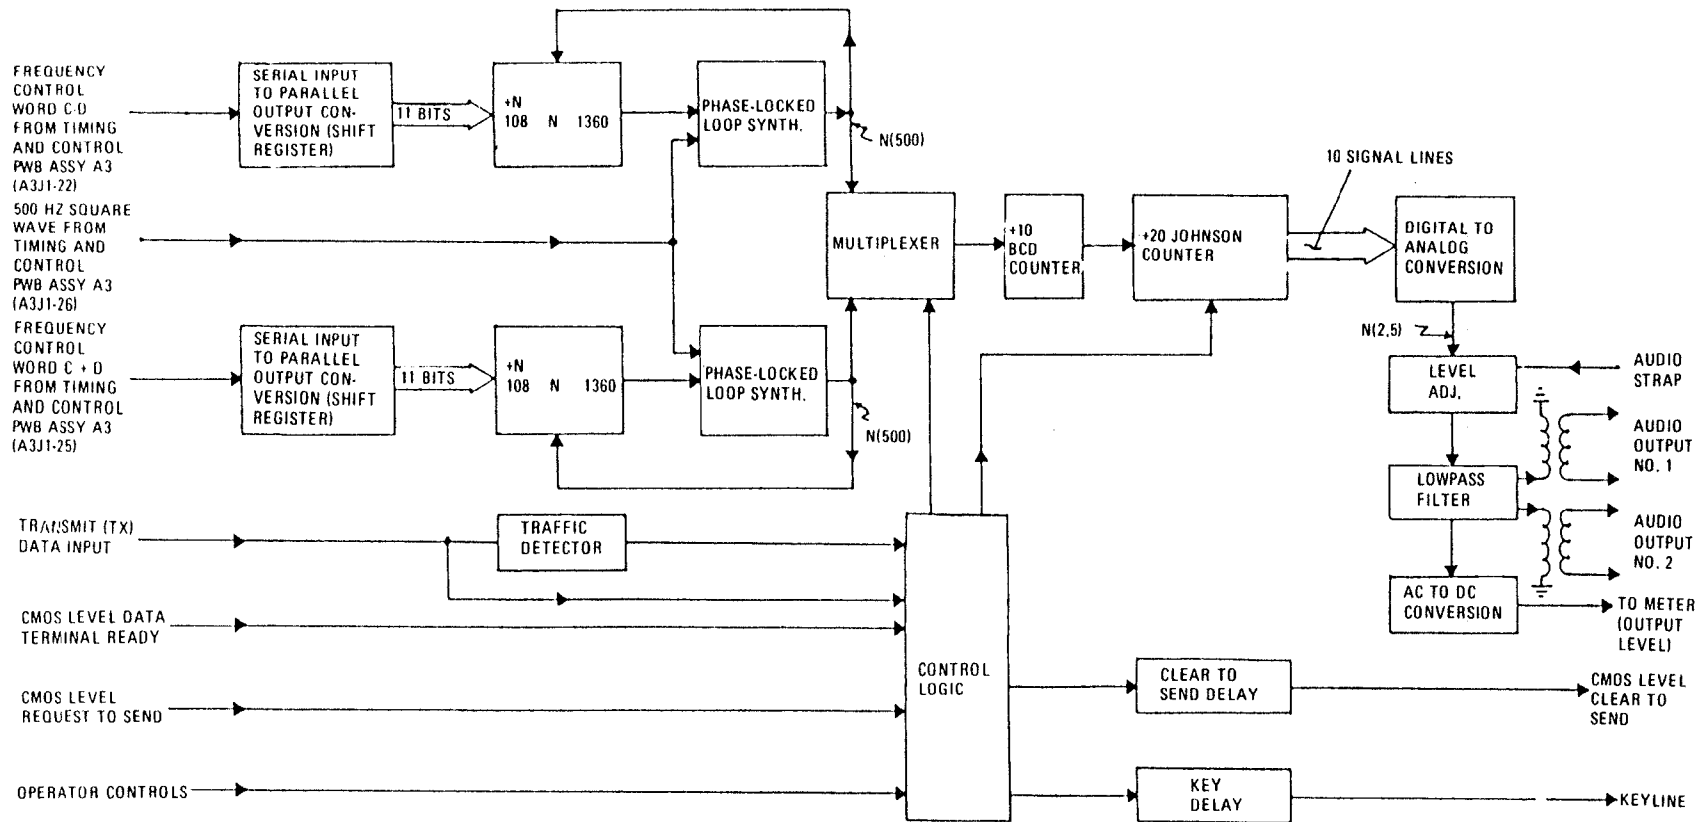

Figure 4-1. Modulator Pwb Assembly A1 Functional Block Diagram
Refer to figure 4-1. Frequency Control Words C-S and C+S (corresponding to the Low and High FSK Tones, respectively) and a 500 Hz square wave input (from Timing and Control Pwb Assembly A3) are applied to two identical Phase-Locked Loop Synthesizers. The synthesizer outputs N (500) are applied to a two-input/one-output Multiplexer. The Multiplexer, controlled by the Control Logic Circuitry, selects one of the synthesizer outputs for subsequent frequency division and conversion to a sinusoid waveform.